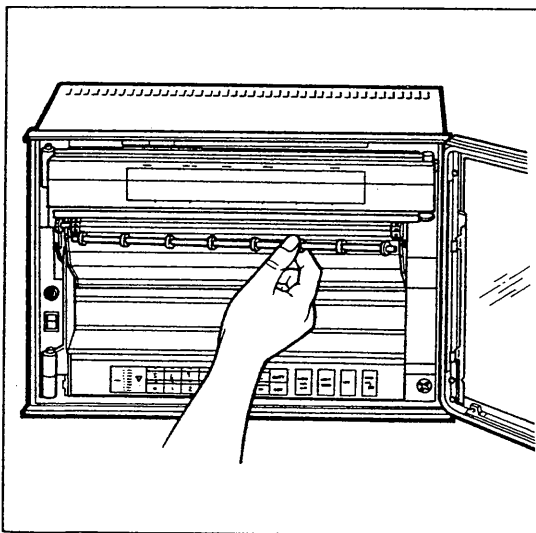

Figure 5-2.
- (2) Open the recorder front door. The POWER switch may be even in the ON position.
- (3) The spring mechanism is attached to the left end of the chart holder roller (see Figure 5-2). Remove the roller by moving it to the left side.